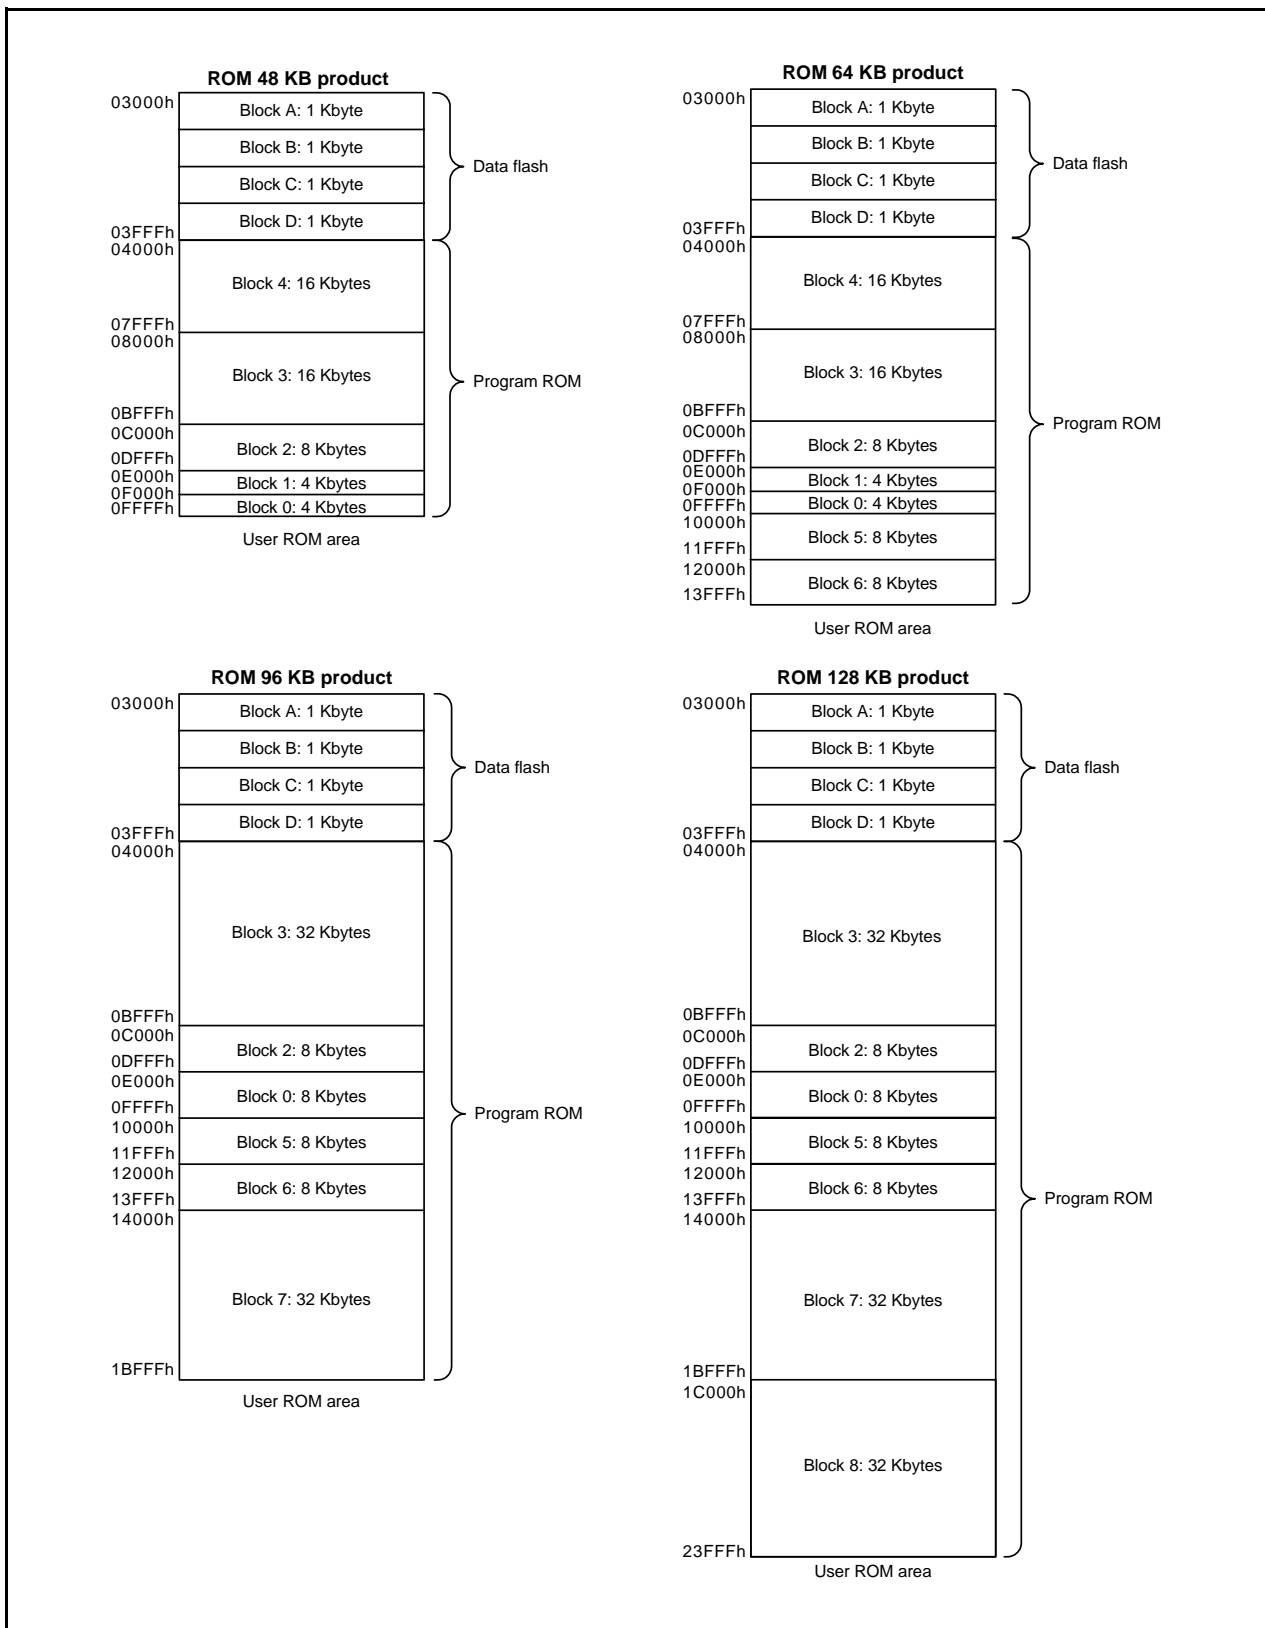

Figure 35.1 Flash Memory Block Diagrams of R8C/L35M, L36M, L38M, and L3AM Groups
- The number of blocks and block division vary with the MCU. Refer to **Figure 35.1 Flash Memory Block Diagrams of R8C/L35M, L36M, L38M, and L3AM Groups** for details.
Figure 35.1 shows the Flash Memory Block Diagrams of R8C/L35M, L36M, L38M, and L3AM Groups.